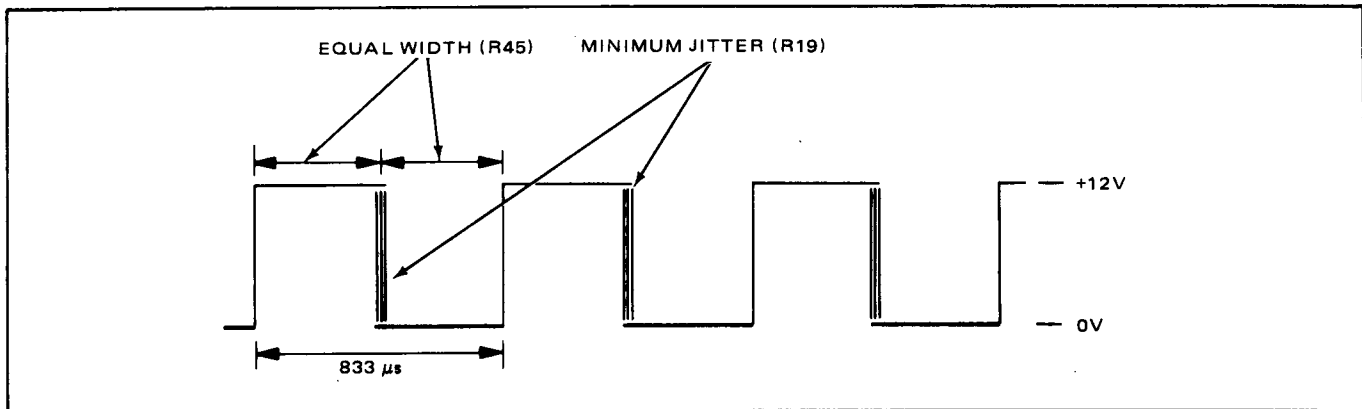

Figure 5-8. Waveform at TP2 on Servo PWA
8. On the servo PWA, adjust R45 for a 50% duty cycle (equal width positive and negative pulses). See Figure 5-8.
9. On the servo PWA, adjust R19 for a minimum jitter at the trailing edge of the positive waveform at TP2 (see Figure 5-8).